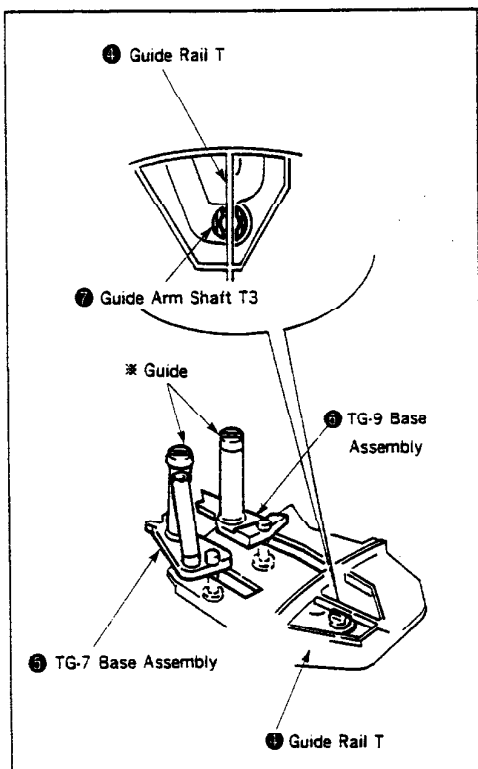

Fig. 25
Note : Do not touch the guide *. (Fig. 25 and Fig. 26)
- 2) Fit the TG-7 base assembly ⑤ and TG-9 base assembly ⑥ in the grooves of the guide rail T ④. (Fig. 25)
- 3) Put the shaft ③ flange in the long groove of the guide rail S ⑤, and fit the TG-4 base assembly ⑧ and TG-6 base assembly ⑦ into the right and left grooves of the guide rail S ⑤ respectively.